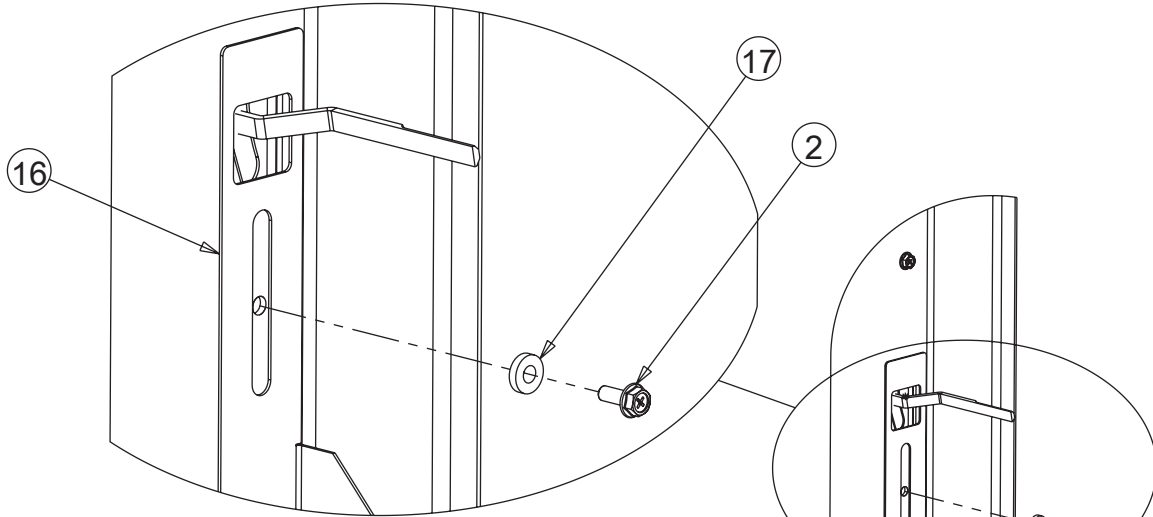

Figure 5A
8. Referring to Figures 5A and 5B, check the adjustment of the factory-installed control enclosure lock release mechanism, verify that the top of the door latch contacts the latch stop when the door is closed and the handle is fully latched.